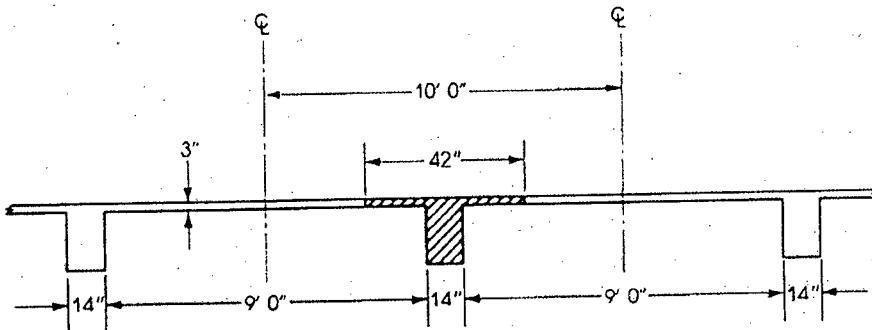

Figure: 01
1. (a) The floor system shown in Fig. 01 consists of 3-in. slabs supported by 14-ft-span beams spaced 10 ft on center. The beams have a web width, b_w , of 14 in. and an effective depth, d , of 18.5 in. Calculate the necessary reinforcement for a typical interior beam if the factored applied moment is 5080 Kip-in. **(20)**